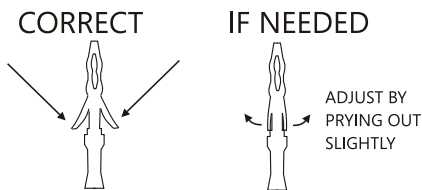

Figure 4-4
5. Inspect the pin's retaining flanges. The flanges may have been deformed while being run through the vehicle. These are critical to secure the pins inside the connector. Adjust them as needed. **See Figure 4-4.**